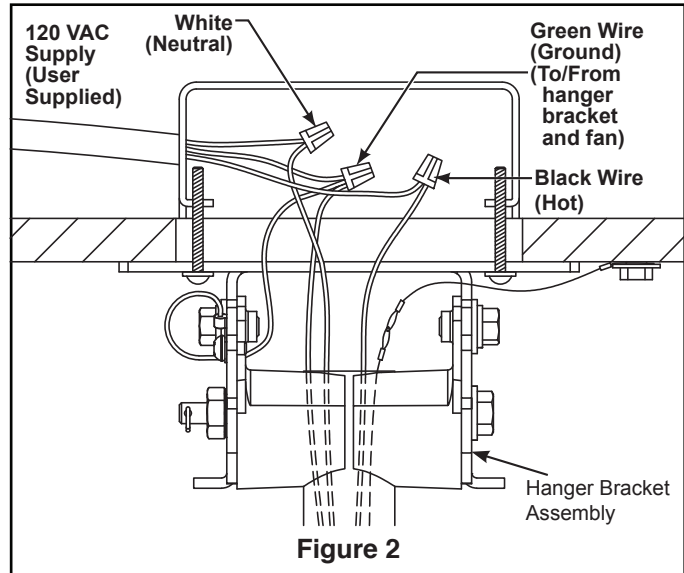

Figure 2
3. Securely connect the white wire from the fan motor to the white supply (neutral) wire using wire connector supplied. (Figure 2)
4. Securely connect the black fan motor wire to the black supply wire using wire connector supplied. (Figure 2)